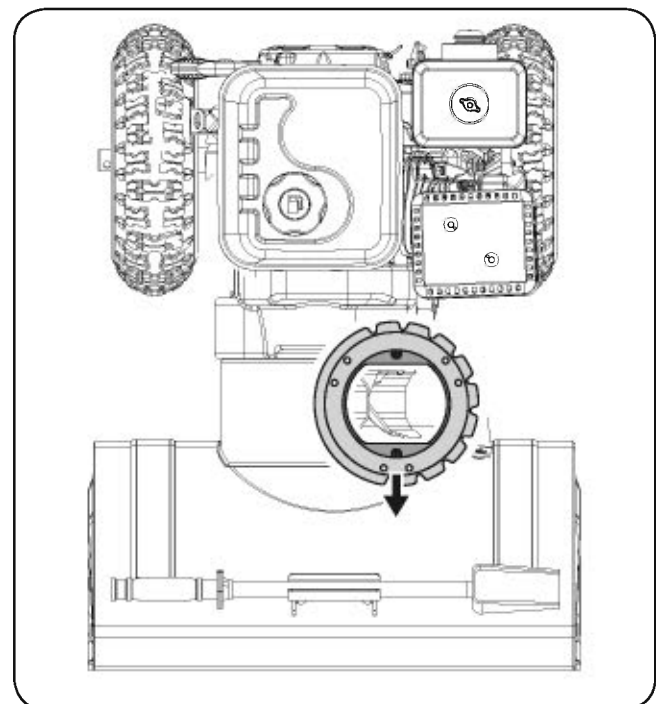

Figure 8a
1. Sit the chute crank flange on top of the impeller housing. Make sure the notched edge is on the left side and the pre-greased surface is on the bottom. (See **Figure 8a**)